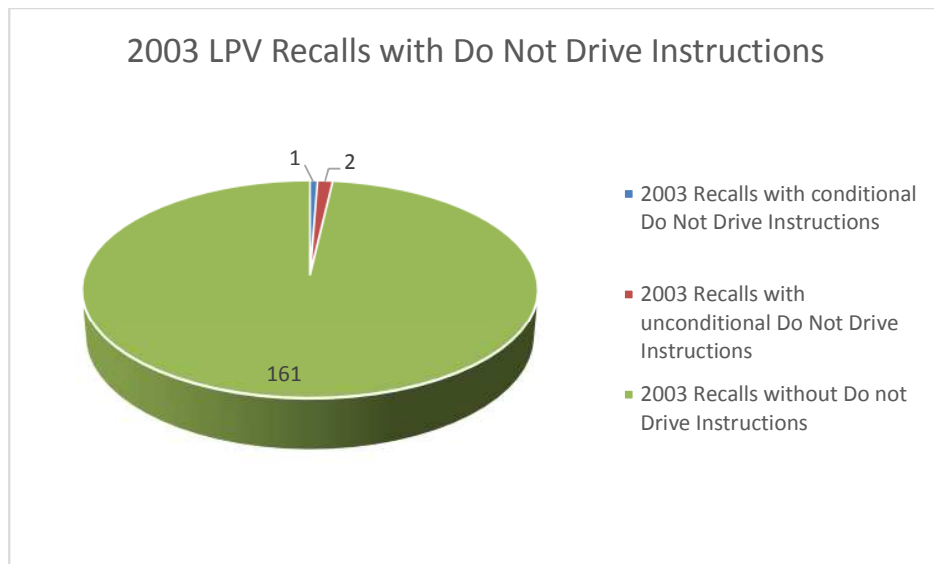

Figure 11. 2003 LPV Recalls with Do Not Drive Instructions
Three (3) of the one hundred sixty four (164) 2003 LPV recalls contained DND instructions. One (1) of those DND instructions was conditional upon owner detection of a defect. Two (2) recalls had an unconditional “do not drive” vehicle recommendation. In the graph in figure 11 these two recalls are counted and categorized as recalls with “unconditional” DND instructions. For the text detailing the DND instructions for the 2003 LPV recalls see Appendix A-11.